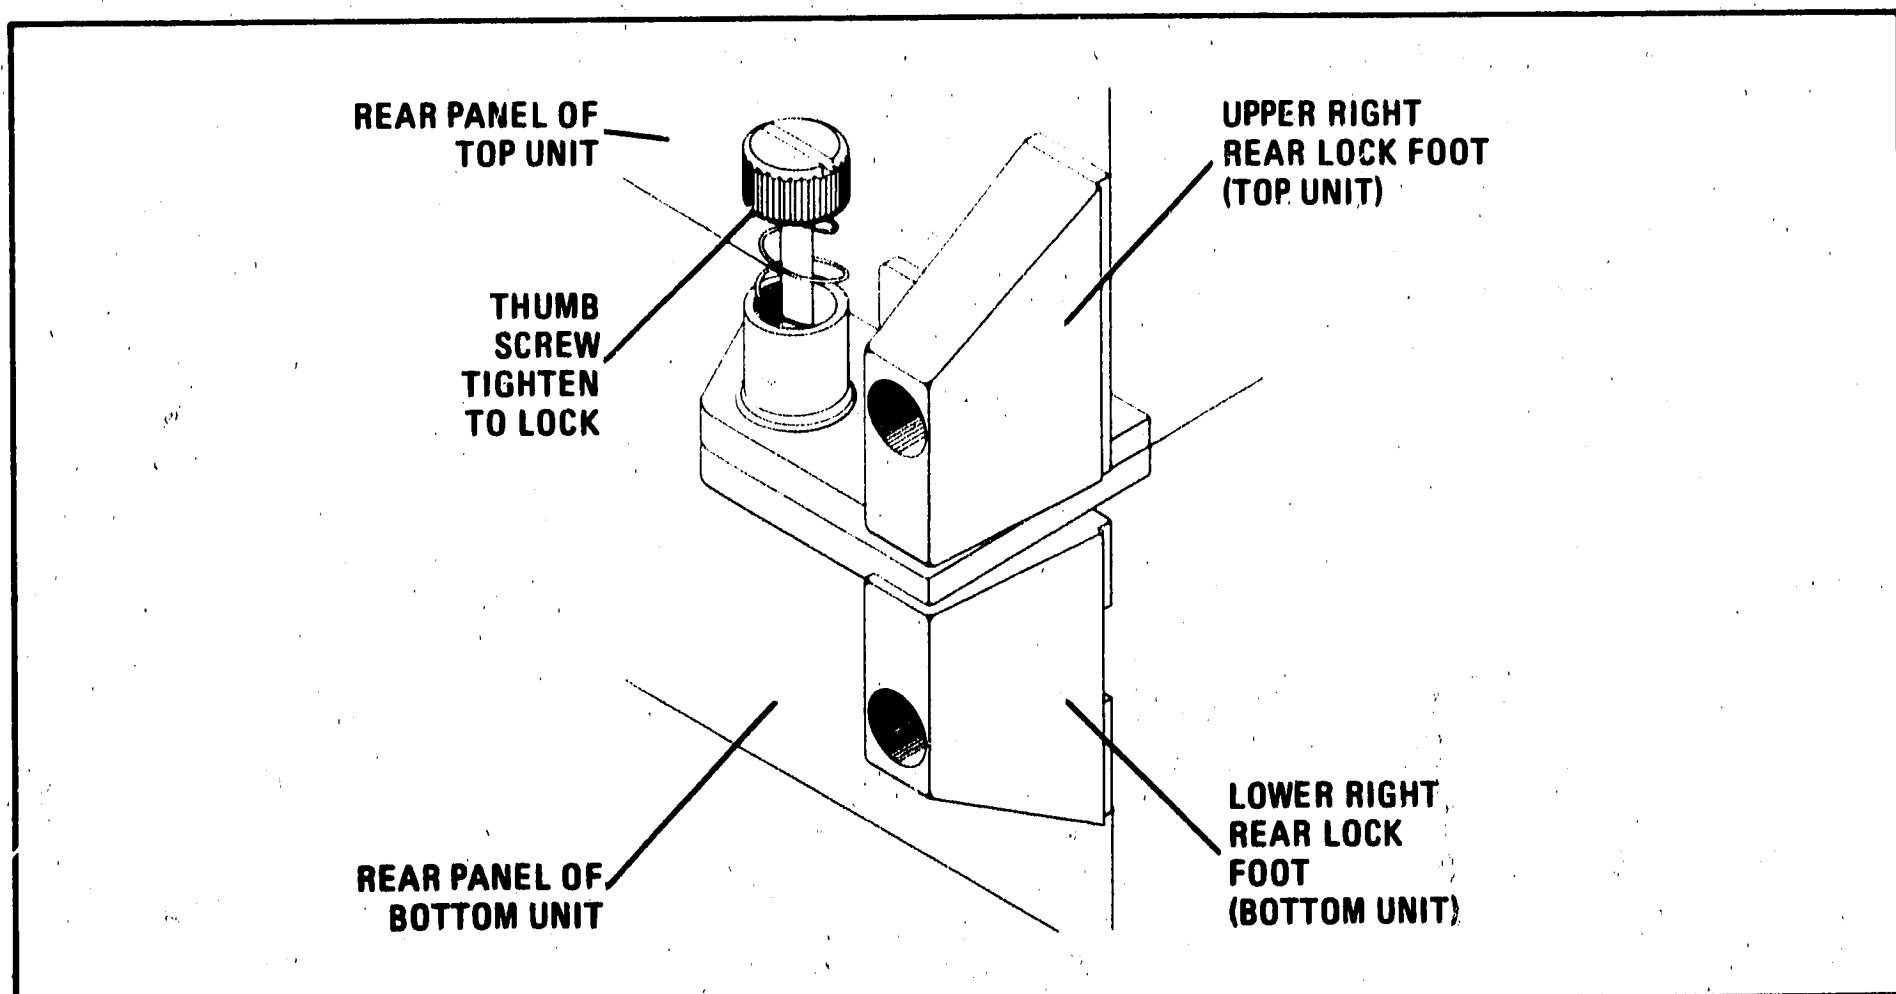

Figure 2-4. Lock Feet, Right Side of Rear Panel
- c. Remove the two bottom rear feet from the 8505A (lower unit) and replace with two lock feet which contain thumb screws. There is a left one (HP Part Number 08505-20155) and a right one (HP Part Number 08505-20157). See Figure 2-4 for proper placement.
- e. Remove the two top rear feet from the 8503B and replace with lower left rear lock foot (HP Part Number 08505-20156) and lower right rear lock foot (HP Part Number 08505-20158). See Figure 2-4 for proper placement.